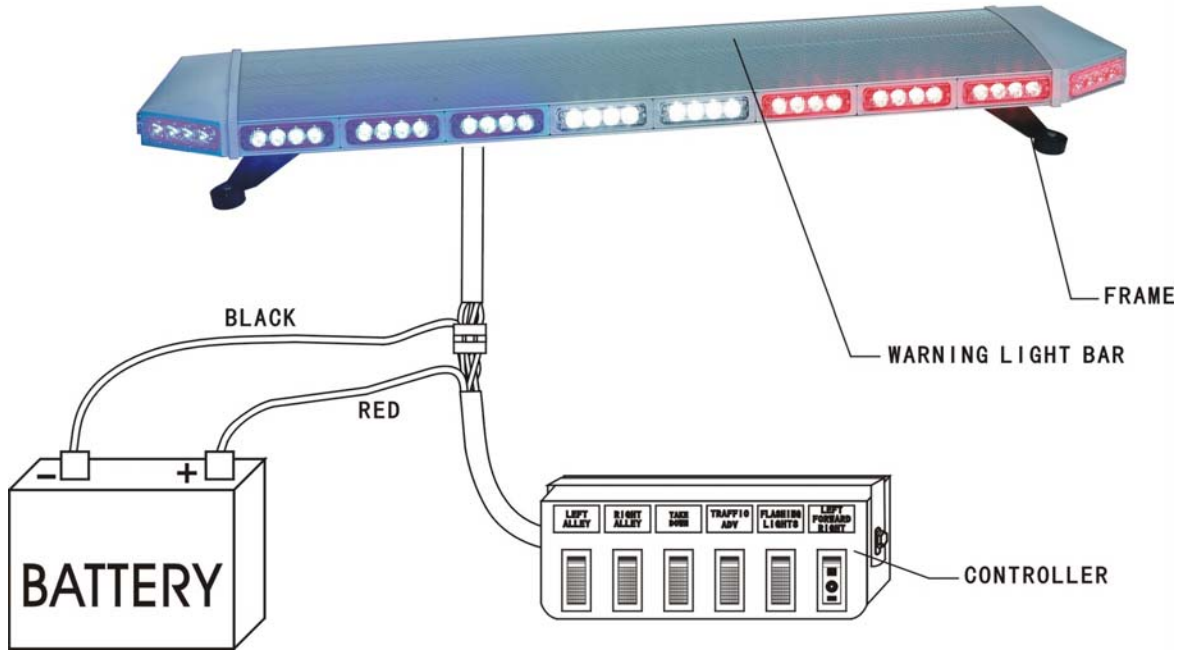

Figure 2. WIRE CONNECTION OF LIGHTBAR CONTROLLER AND BATTERY
- After the lightbar is installed, attach the red and black wires to the vehicle battery (red to +, black to -). Then, plug the controller to the light bar (See Figure 2 below).